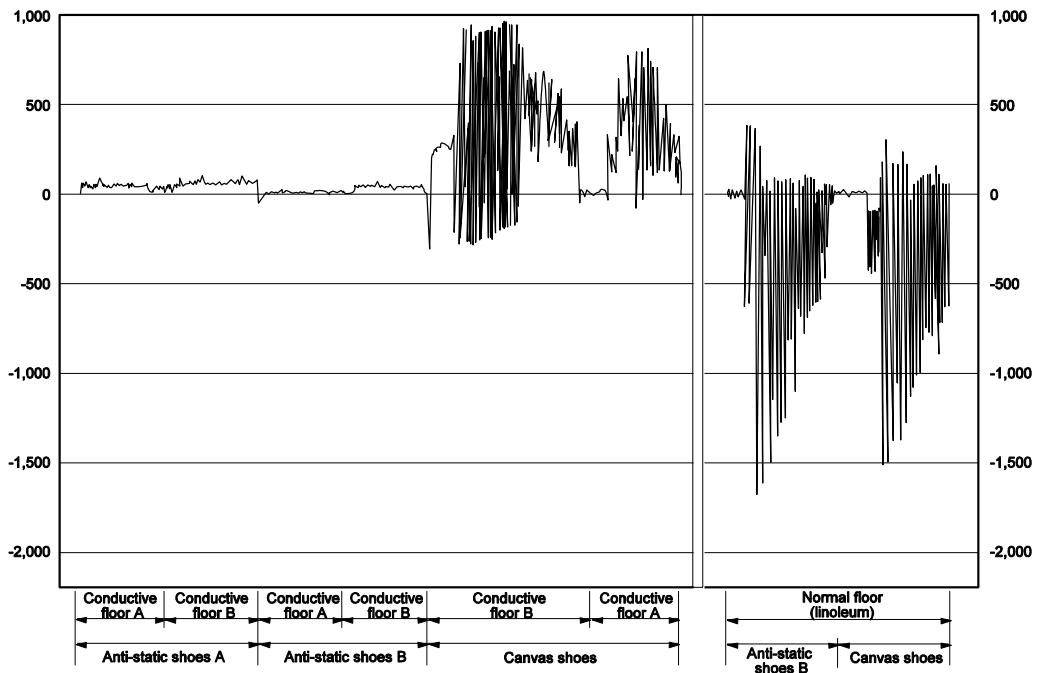

Fig.26 Electrostatic buildup on human body
- 2) When working with laser diodes wear anti-static clothing, including footwear and caps. Fig.26 shows how footwear and flooring mutually affect static buildup, thus materials should be selected carefully. Grounded wrist straps should always be worn while working with laser diodes, and the strap should be grounded through a 1MΩ resistance.